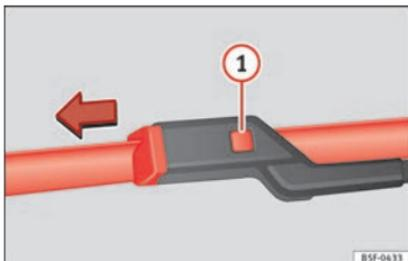

Fig. 80 Changing the windscreen wiper blades
- Press and hold release button »» **Fig. 80** ❶ and pull gently on the wiper blade in the direction of the arrow.